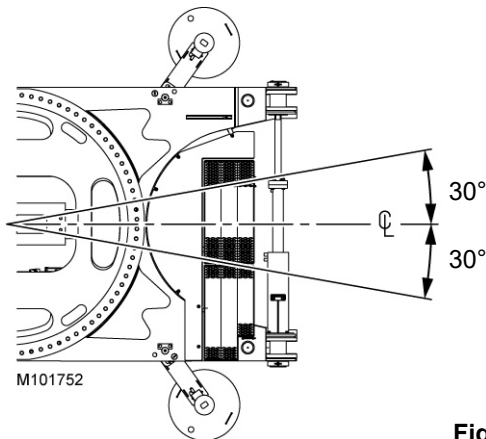

Figure 4-92
- Limit swing to 30° in either direction from center when lifting the second crawler (see Figure 4-92).
- Do not exceed swing limits (Figure 4-92).